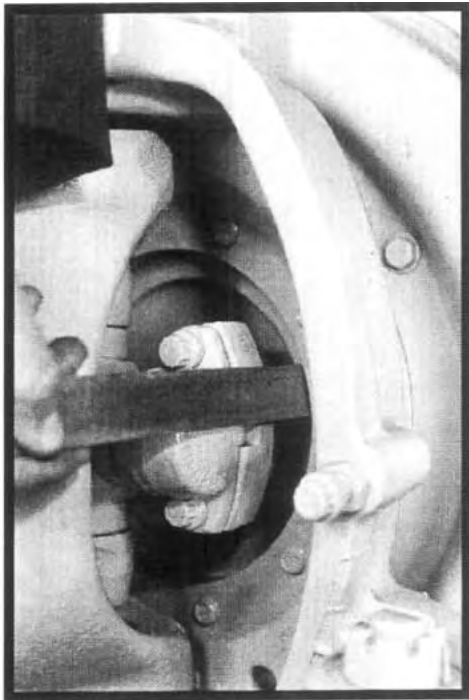

Figure 8
2. Place one end of a 6" machinist's rule against the flat inner surface of the spindle which pilots into the spindle yoke. See Figure 8.